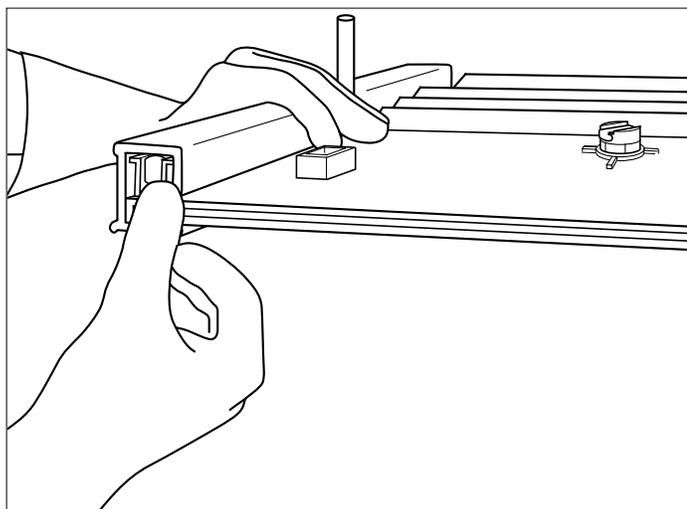

Fig. 4.3. Alignment of glass plate sandwich.
- Check the alignment of the glass plates, spacers and clamps. The bottom of the glass plates, spacers and clamps should be flush. If either glass plate, spacer, or clamp is not properly aligned or flush, adjust the alignment by loosening the clamps and move clamps, glass plates and spacers into alignment (Figure 4.3).